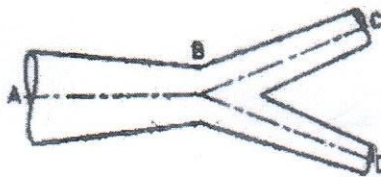

Figure 4
- 3 (a) Derive Bernoulli's equation for steady, incompressible and frictionless fluid. (10)
(b) A pipe AB branches into two pipes C and D as shown in Figure 4. The pipe has diameter of 40 cm at A, 25 cm at B, 20 cm at C and 25 cm at D. Determine the discharge at A, if the velocity at A is 3 m/s. Also, determine the velocity at B and D, if the velocity at C is 7 m/s. (8)